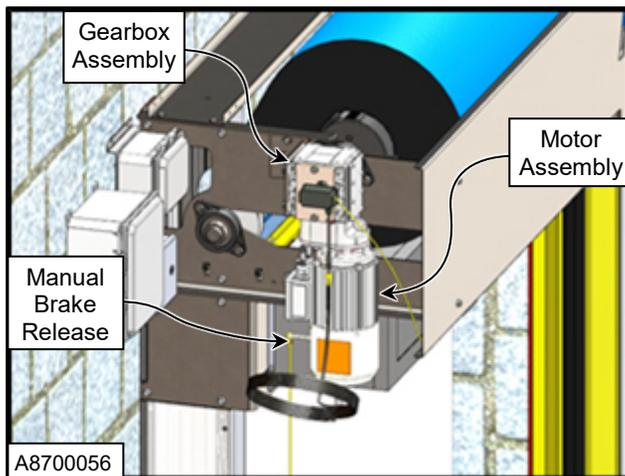

Figure 11
4. Then the door panel will guide itself into the channel and resume its normal operation. (See Figure 11)